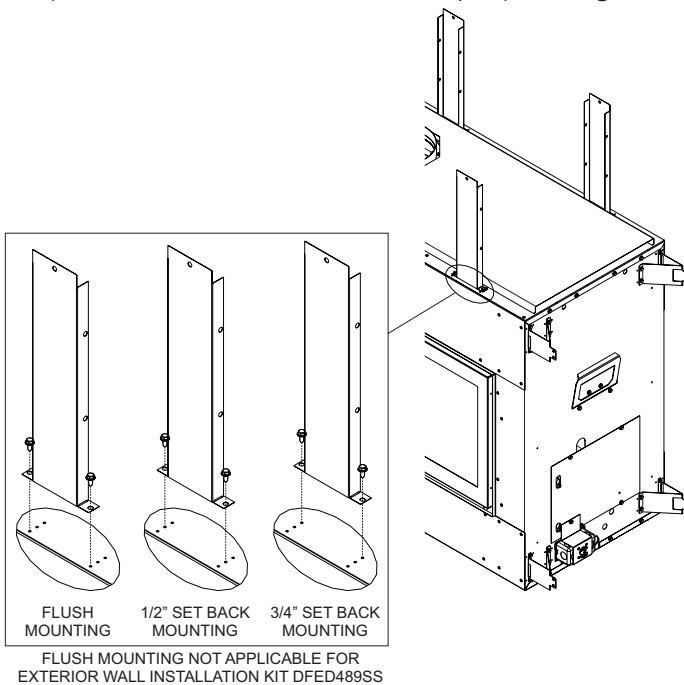

Figure 25
6. Attach three top framing brackets to the top front edge of the fireplace. These brackets support the non-combustible board above the fireplace. Preset depth to suit facing material (flush, 1/2 inch, or 3/4 inch set back depths). See Figure 25.